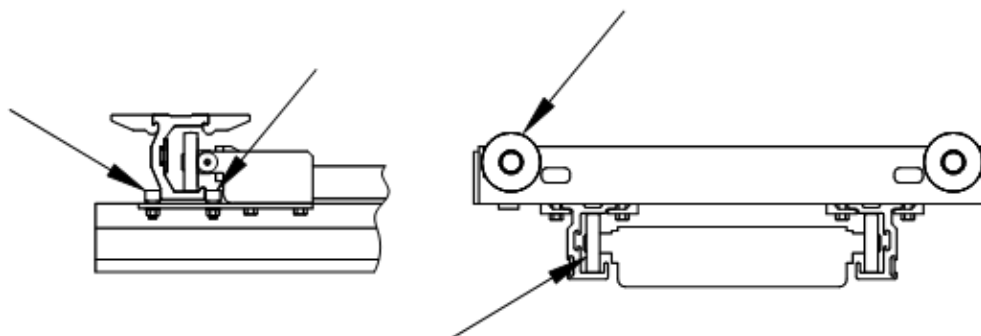

Figure 20
1. Clean carriage wheels and guides and the rails where carriage wheels and guides ride inside the rails. See Figure 20.